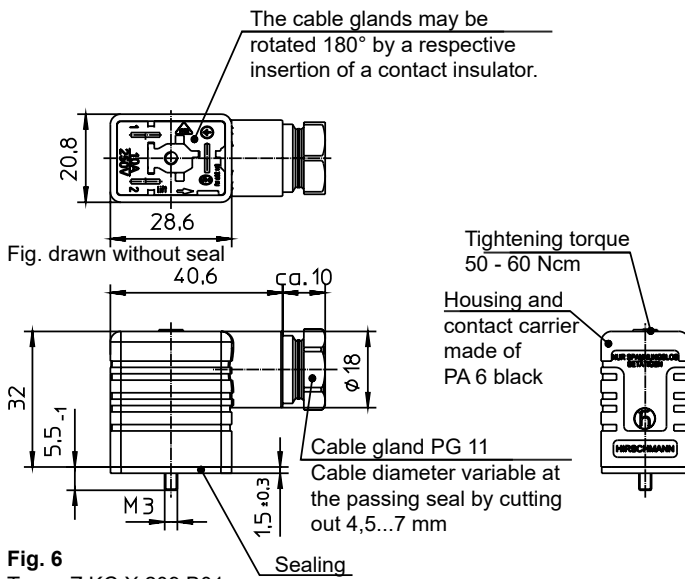

Fig. 6 Types Z KC X 209 B01 Z KC G 209 B01
- 2) An adjustment to the cable diameter is possible by simple removing of the respective rubber bands (see fig. 6)